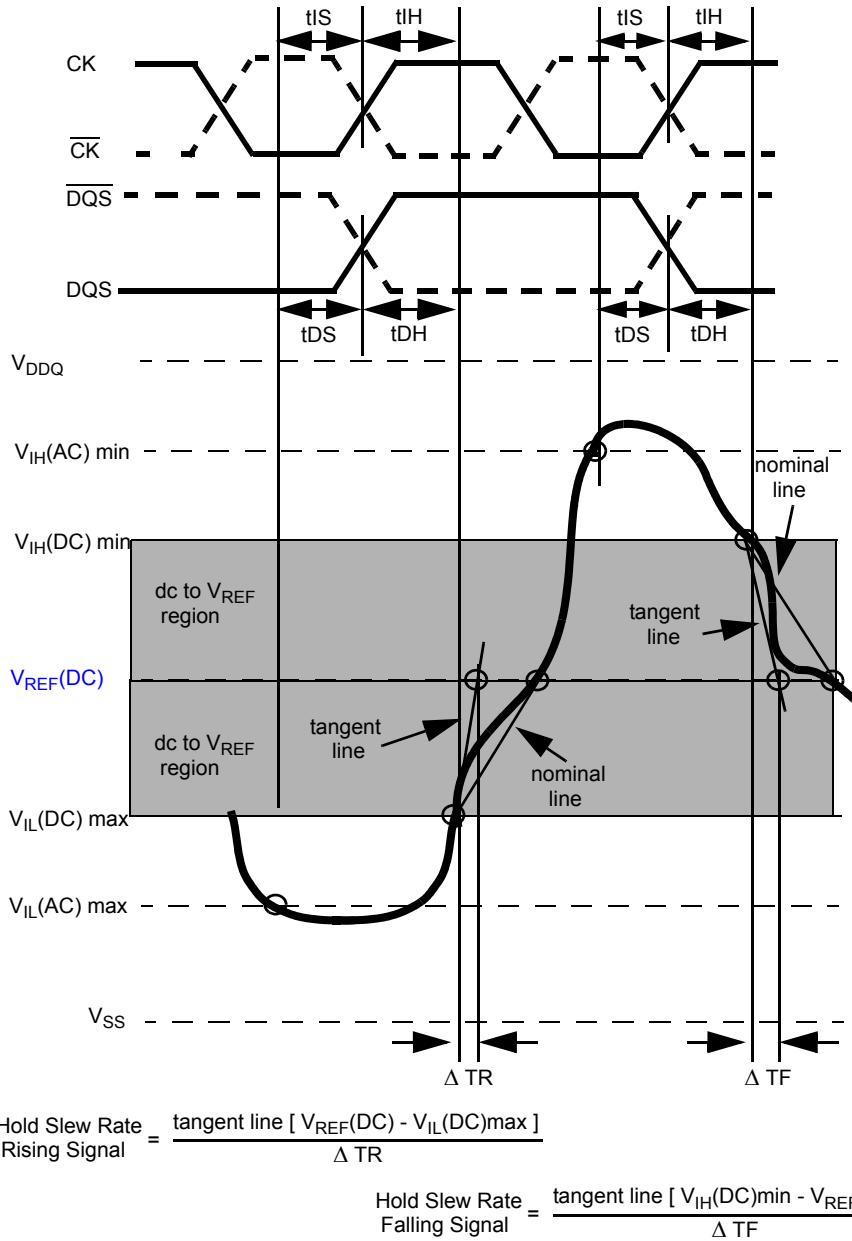

Figure 28. Illustration of tangent line for hold time **t_{DH}** (for DQ with respect to strobe) and **t_{IH}** (for ADD/CMD with respect to clock)
Hold (tDH) nominal slew rate for a rising signal is defined as the slew rate between the last crossing of VIL(DC)max and the first crossing of VREF(DC). Hold (tDH) nominal slew rate for a falling signal is defined as the slew rate between the last crossing of VIH(DC)min and the first crossing of VREF(DC) (see Figure). If the actual signal is always later than the nominal slew rate line between shaded 'dc level to VREF(DC) region', use nominal slew rate for derating value. If the actual signal is earlier than the nominal slew rate line anywhere between shaded 'dc to VREF(DC) region', the slew rate of a tangent line to the actual signal from the dc level to VREF(DC) level is used for derating value (see Figure 28).